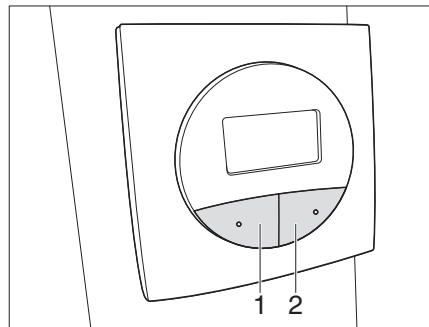

Fig. 45 Teleco satellite unit panel
- Press the SAT button (Fig. 45,2) **twice**.
- Press the PARK button (Fig. 45,1).